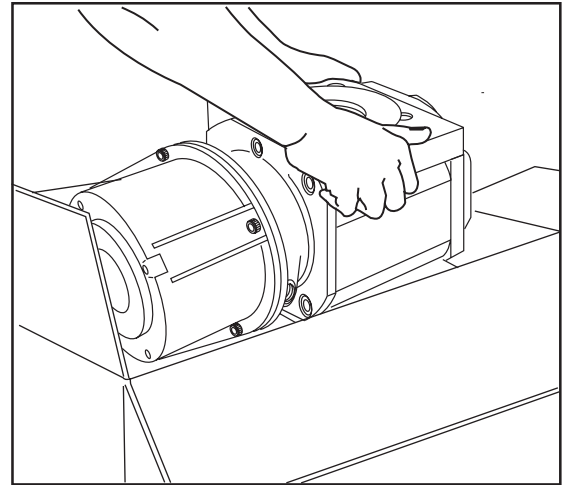

Fig. 2-2 Unpacking the Meter
5. Carefully grasp the meter by the **center** of the body and lift upward. See Figure 2-2.